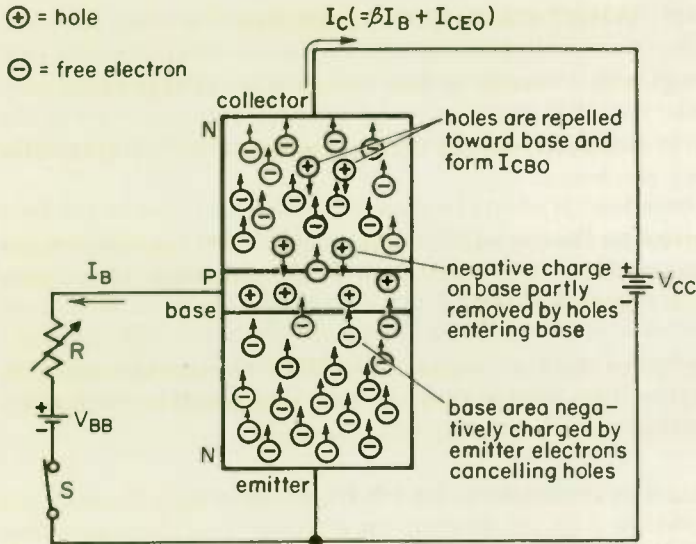

Fig. 6 Internal operations in an NPN transistor, leakage current being considered.
The holes in the collector region, being positively charged, are repelled from the positive battery voltage applied to the collector, and attracted by the negative charge of the P-region, so that they move downward in Fig. 6, as the drawing shows. As they enter the base region, they add holes to the base region to replace some of the holes lost because of combining with electrons from the emitter region. In other words, they help drain off the negative charge on the base.
Now what will the collector current be if we open switch S in Fig. 6, so that the base is opened and I_B becomes zero? It won't be zero because some of the negative charge on the base is still being drained off by the holes of I_{CBO} entering the base. For every hole that enters the base, β electrons will pass from emitter to collector. Remember that the great majority of the emitter electrons will pass through the base without colliding with a hole, and thus do not make the base more negative. Only the occasional ones that meet with base holes form nega-
1. If in Fig. 6 I_B is $30 \mu\text{a}$ and collector-to-base leakage current is $5 \mu\text{a}$, what is the value of the collector current I_C ? Assume that β is 50.
2. Since the emitter-base junction is always forward-biased, and so has only a small opposition to current flow, the base current I_B in Fig. 6 is determined primarily by R and V_{BB} in accordance with Ohm's law. If V_{BB} is 2 volts and R is 50,000 ohms, what is the approximate value of I_B ? (a) _____ μa . If I_{CBO} is $5 \mu\text{a}$, what is the value of the I_{CEO} component of the collector current? (b) _____ μa . What is the collector current? (c) _____ μa .
4. If a PNP type transistor were used in Fig. 6 and the battery polarities reversed, then the direction of movement of the majority current carriers in collector would be (a) (up) (down). The leakage current I_{CBO} would consist of (b) (holes) (free electrons).